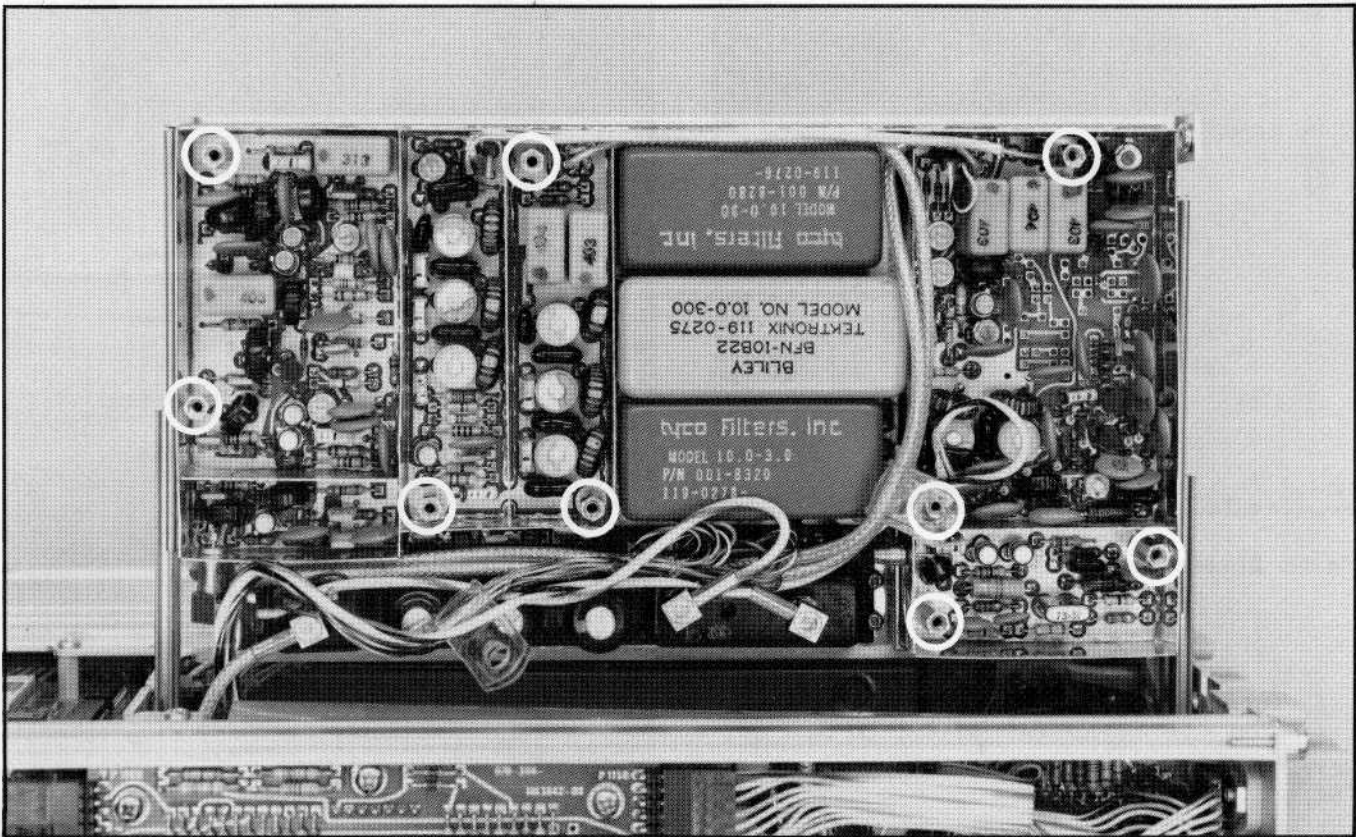

Fig. 6-7. Remove the mounting post screws indicated by a circle outline, to free the Resolution board.
**Replacing the Resolution Circuit Board Assembly.** Unscrew and remove the eight (8) mounting posts that hold the board to the chassis (see Fig. 6-7). Lift the circuit board assembly off of its chassis.